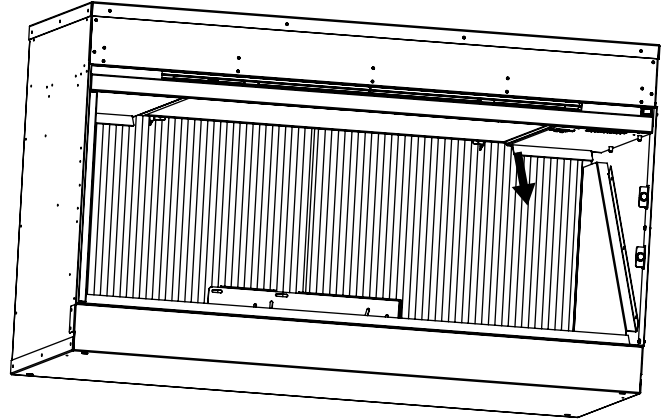

Figure 22: Ceiling Panel Removal
- a. Gently but firmly pull down on the inner part of the upper glass tab as shown in Figure 22 until the left side of the panel releases from the magnets. **DO NOT PULL TOO FAR YET.**